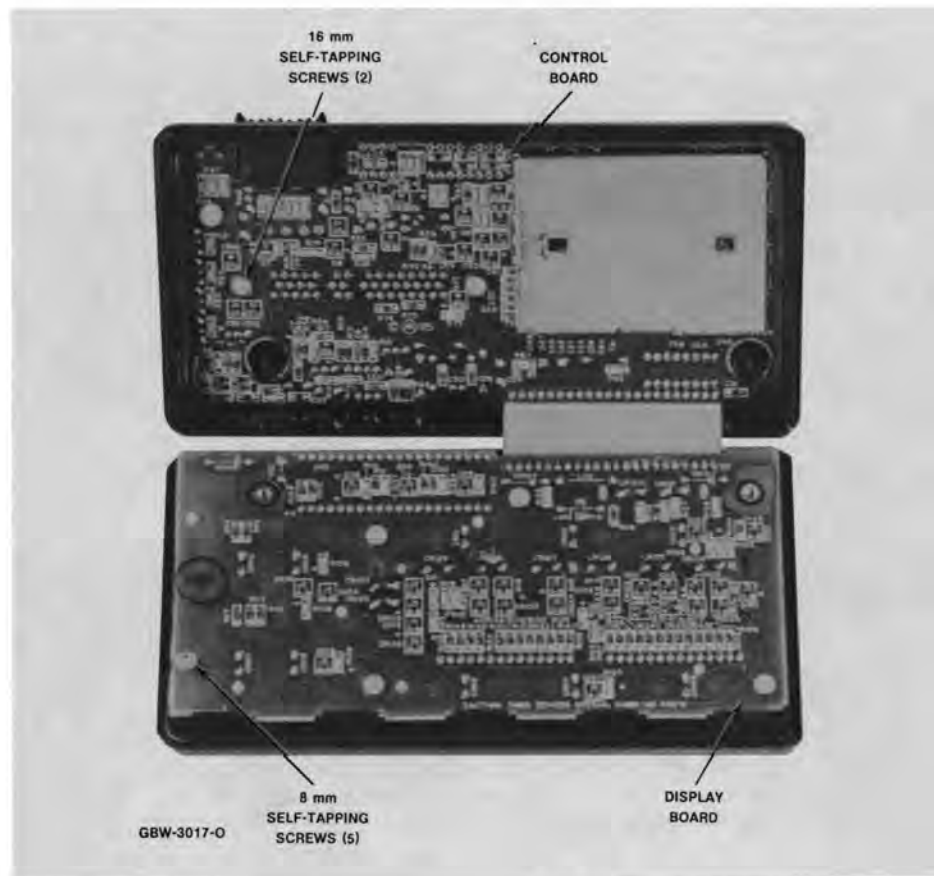

Figure 2. Disassembly of Control Unit
3.1 DISASSEMBLY OF CONTROL UNIT (See Figure 2.)